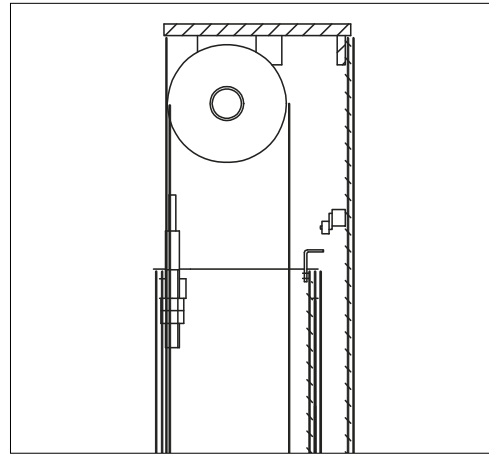

Fig. 14
- ◆ If the lift reaches to the maximum height, the up limit switch will stop the lifting. (**Fig.14**)
- ◆ If the moving part exceed its travel distance, on the upper part of the command post there is one limit switch and is usually set working by the “actuator” (**Fig. 14**) on the command side carriage. If the first limit switch did not work, the second one would trip after 3sec of carriage run.